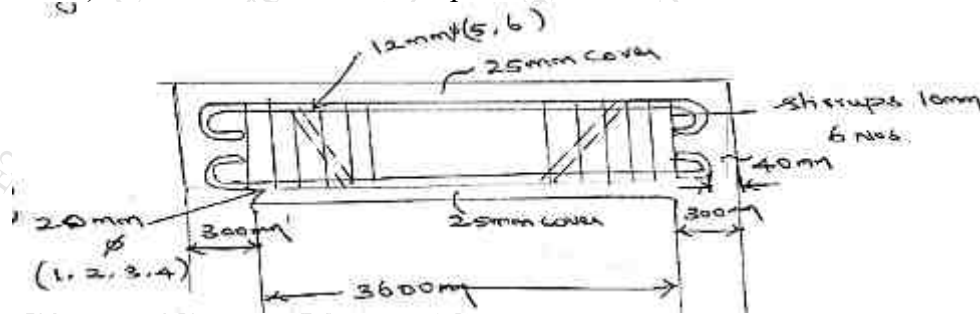

Figure 2
- (b) Prepare a schedule of the following bars for the Beam as per section shown in figure 2. **12**